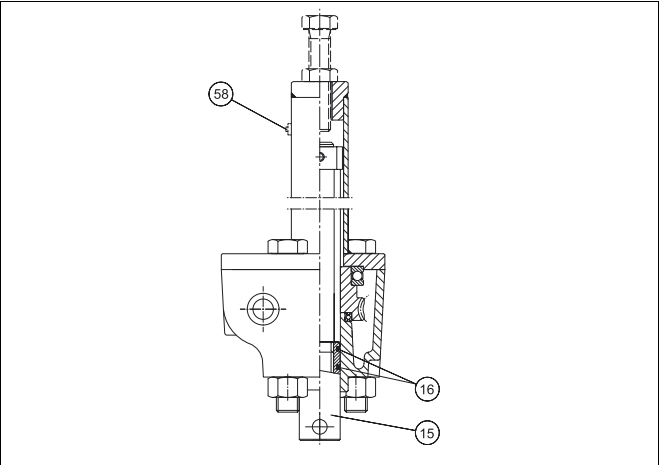

Fig. 25 Manual override
There is some air bleed trough the spindle thread and the relief valve (58) when the sealing slide (15) with the O-rings (16) is positioned inside the cylinder. I.e. when the valve has been manually operated to open position during compressed air loss and then the air pressure is restored. To stop the leakage operate the manual override to closed position. See Fig. 25